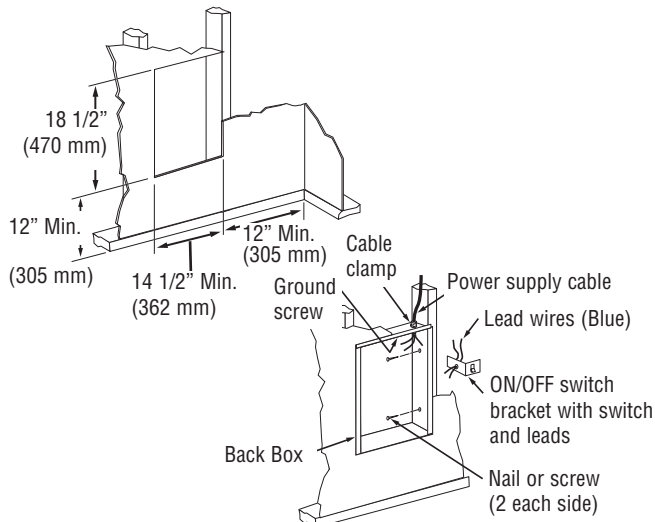

Figure 2 - Locating Back Box in Existing Construction
1. Provide a wall opening 14-1/2" (362 mm) wide by 18-1/2" (470 mm) high at the desired mounting height, but no closer than 12" (305 mm) from floor or adjacent wall (see Figure 2). Locate so at least one side of opening is at wall stud.
2. Run a power supply cable into the knockout area in the upper right hand corner of the wall opening (see Figure 2). All wiring must be in accordance with National and Local Electrical Codes. Refer to Specifications for correct wire size.